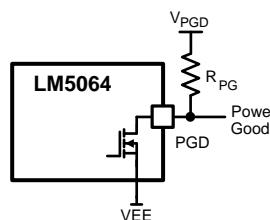

Figure 13. Power Good Output
When the Q1 VDS voltage is below its threshold, the internal pull-down acting on the PGD pin is disabled, allowing PGD to rise to VPGD through the pull-up resistor, RPG, as shown in Figure 13. The pull-up voltage (VPGD) can be as high as 80V, and can be higher or lower than the voltages at VCC and OUT. VDD is a convenient choice for VPGD as it allows interface to low voltage logic and avoids glitching on PGD during power up. If a delay is required at PGD, suggested circuits are shown in Figure 14. In Figure 14(A), capacitor CPG adds delay to the rising edge, but not to the falling edge. In Figure 14(B), the rising edge is delayed by RPG1 + RPG2 and CPG, while the falling edge is delayed a lesser amount by RPG2 and CPG. Adding a diode across RPG2 (Figure 14 (C)) allows for equal delays at the two edges, or a short delay at the rising edge and a long delay at the falling edge.